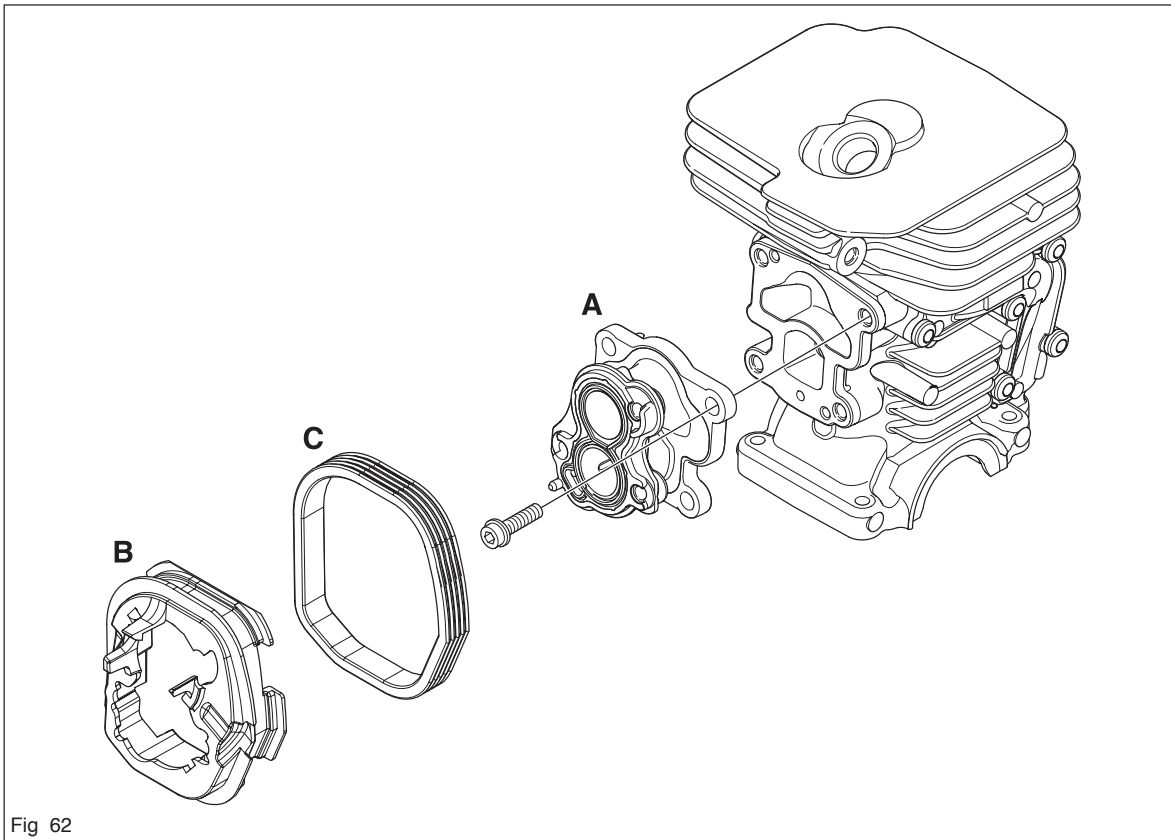

Fig 62
Mount the intake manifold (A) and the partition walls (B and C) on the cylinder using tools 502 50 87-01 (see figure 62).